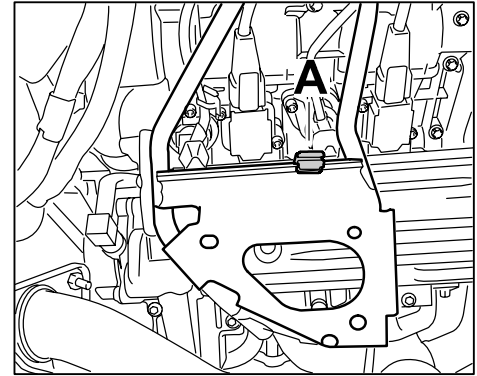

Figure 5
- 1.5 Clip hose clip (999.591.746.02) in at the top of both rear muffler holders at the engine side (right side of engine [cylinder bank 4–6], see ⇒ *Figure 5 -A-*).